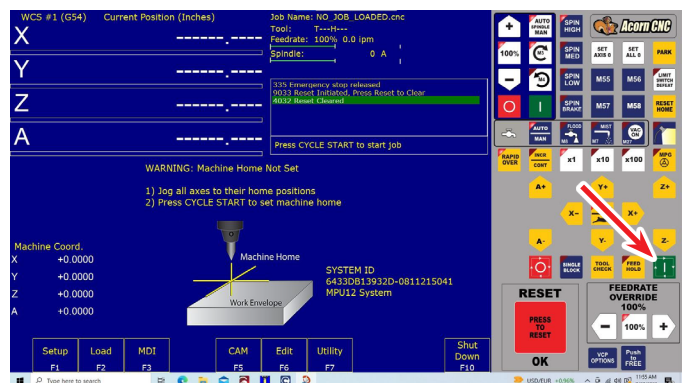

FIGURE 15—The red arrow is pointing to the location of the Cycle Start icon.
1. If the machine is not setup for homing switches, then move the machine to the X, Y, and Z start points and press the Cycle Start icon (see Figure 15, green button). At this point, the machine table will not move but the software DRO is reset to zero and the machine is ready to run the engraving.